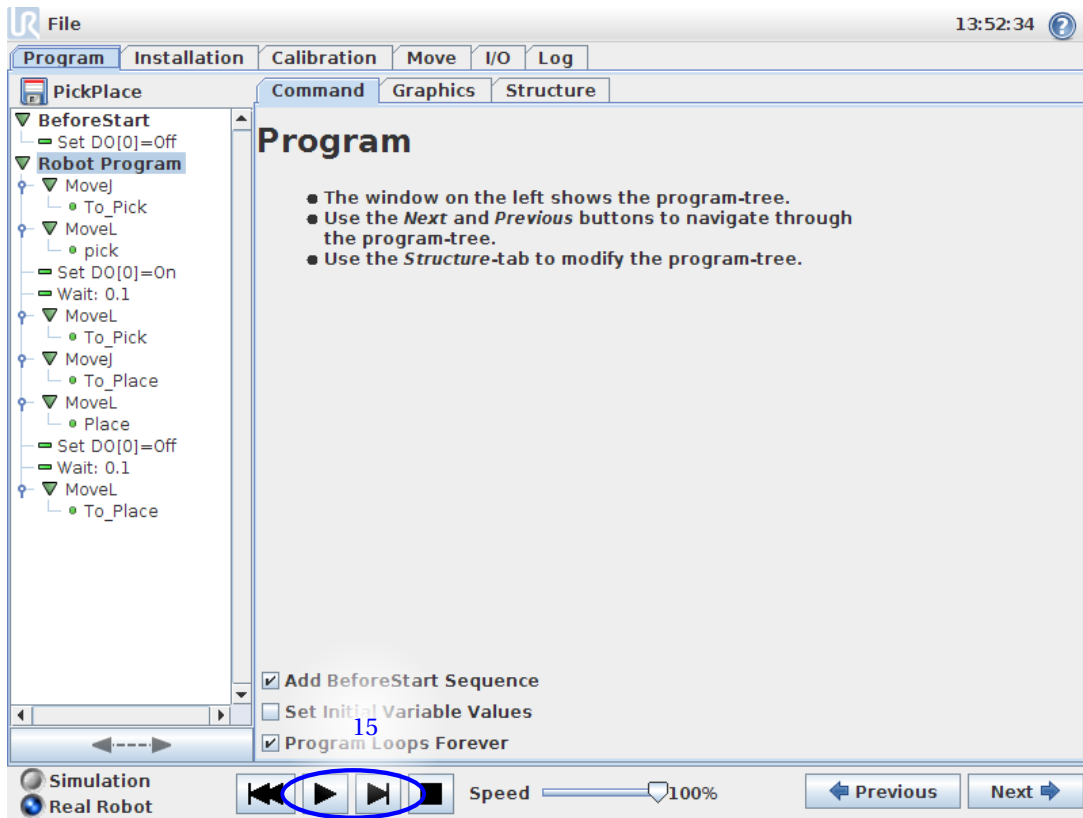

Figure 2.17: Test the program before overwrite the old program
- (15) After the program is corrected, it is recommended that you test before you overwrite the old program as is indicated in figure 2.17. If a better accuracy is needed, add additional key-waypoints and repeat from step 12.